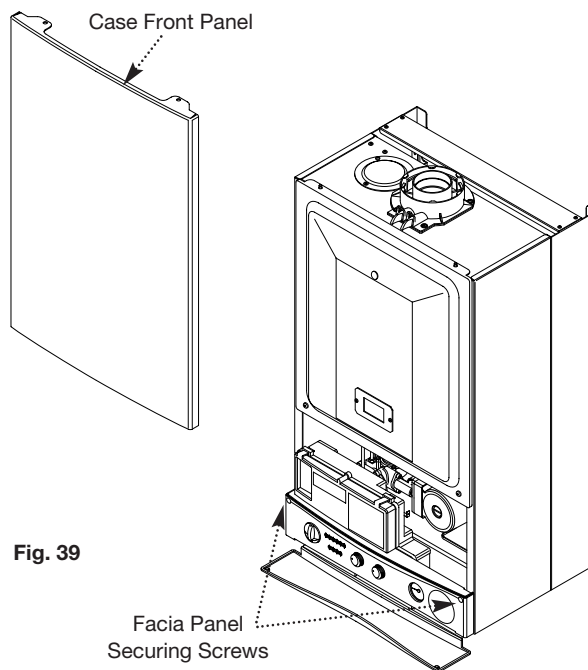

Fig. 39
5. Slacken the screws securing the fascia panel. Lift the outercase panel so that its securing tabs are clear of the fascia. Remove the panel, allowing the fascia to hinge down (Fig. 39).